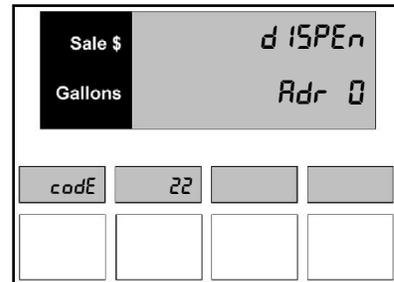

Figure 22.1 – Dispenser Address
1. Press the number **2** and **2**, then the **Mode** button on the keypad. The PPV display shows the dispenser in Menu Code 22. If the dispenser has not been programmed since it came from the factory, the number 1 appears in the main display. This is the default setting as shown in *Figure 22.1*.